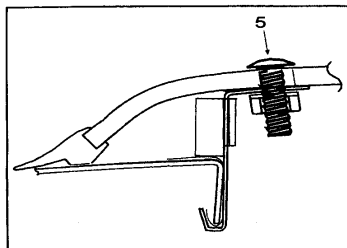

Figure 4. Proper installation
6. For a proper installation (see figures 4, 5, 6 and 7) ensure that: